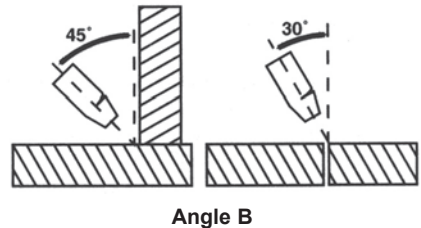

Figure 10. Torch Position, Angle B
2. Angle B (Figure 10) can be varied for two reasons: to improve the ability to see the arc in relation to the weld puddle and to direct the force of the arc.